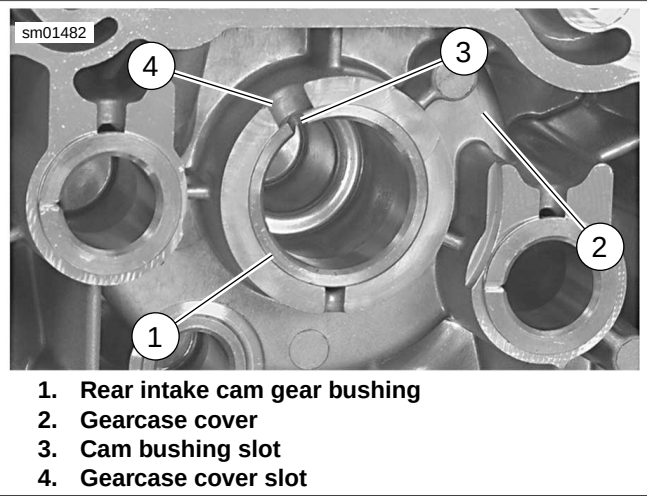

Figure 3-109. Rear Intake Cam Gear Bushing Installed in Gearcase Cover
1. See Figure 3-109. Position bushing (1) over bore of gearcase cover (2) with chamfered edge downward and slot upward. Align slot in bushing with slot in gearcase cover boss. Press bushing into cover bore until bushing is flush with cover boss.